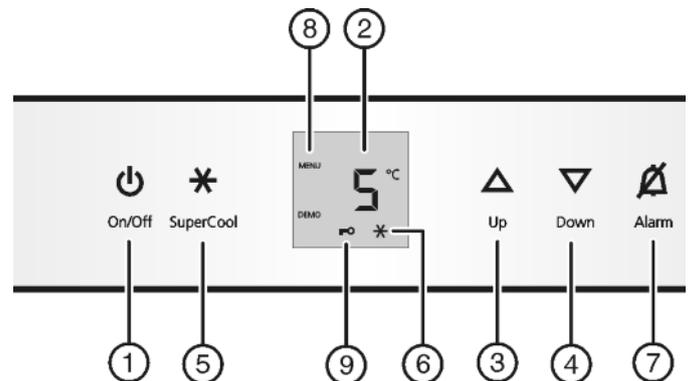

Fig. 2
- ▶ Press On/Off button *Fig. 2 (1)*.
- ▶ Activate setting mode: Press the SuperCool button *Fig. 2 (5)* for around 5 seconds.
- ▶ Briefly press the SuperCool button *Fig. 2 (5)* to confirm. When **cl** is indicated in the display:
- ▶ to activate the child lock, briefly press the SuperCool button *Fig. 2 (5)*.
- ▷ The child lock symbol *Fig. 2 (9)* shines. **c** flashes in the display.
- ▶ to deactivate the child lock, briefly press the SuperCool button *Fig. 2 (5)*.
- ▷ The child lock symbol *Fig. 2 (9)* goes out. **c** flashes in the display.
- ▶ To deactivate the set-up mode: press On/Off button *Fig. 2 (1)*.
- ▶ Press alarm button *Fig. 2 (7)*.
- ▶ For a higher temperature setting: press Up button *Fig. 2 (3)*.
- ▶ For a lower temperature setting: press Down button *Fig. 2 (4)*.
- ▶ Briefly press SuperCool button *Fig. 2 (5)*.
- ▷ The SuperCool *Fig. 2 (6)* symbol lights up in the display.
- ▷ The SuperCool symbol *Fig. 2 (6)* goes out in the display.